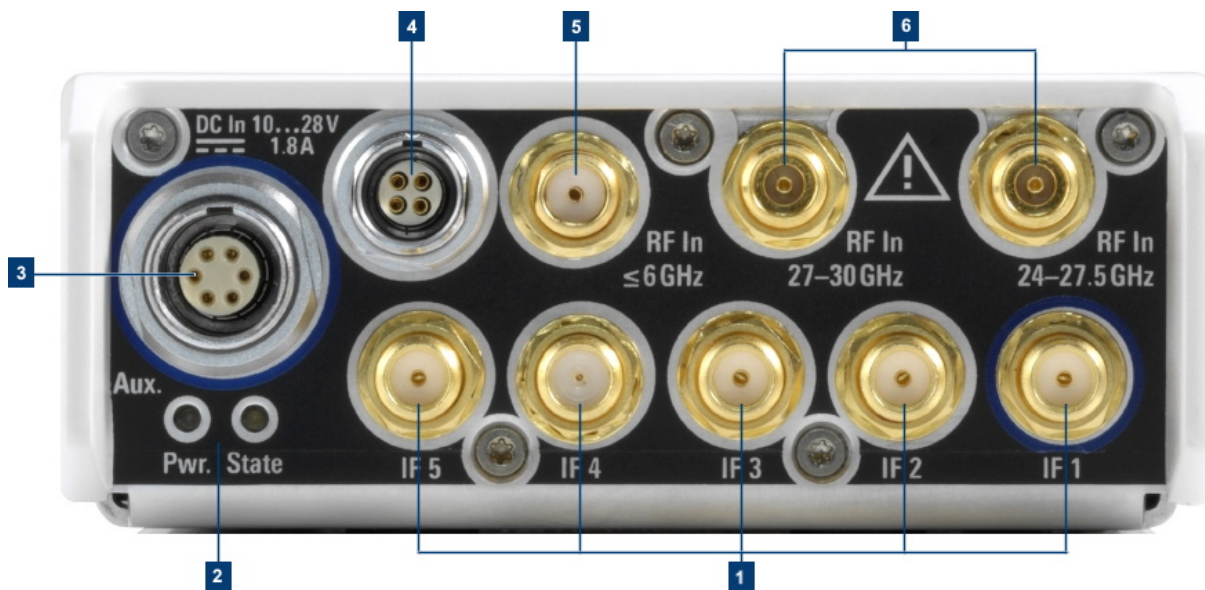
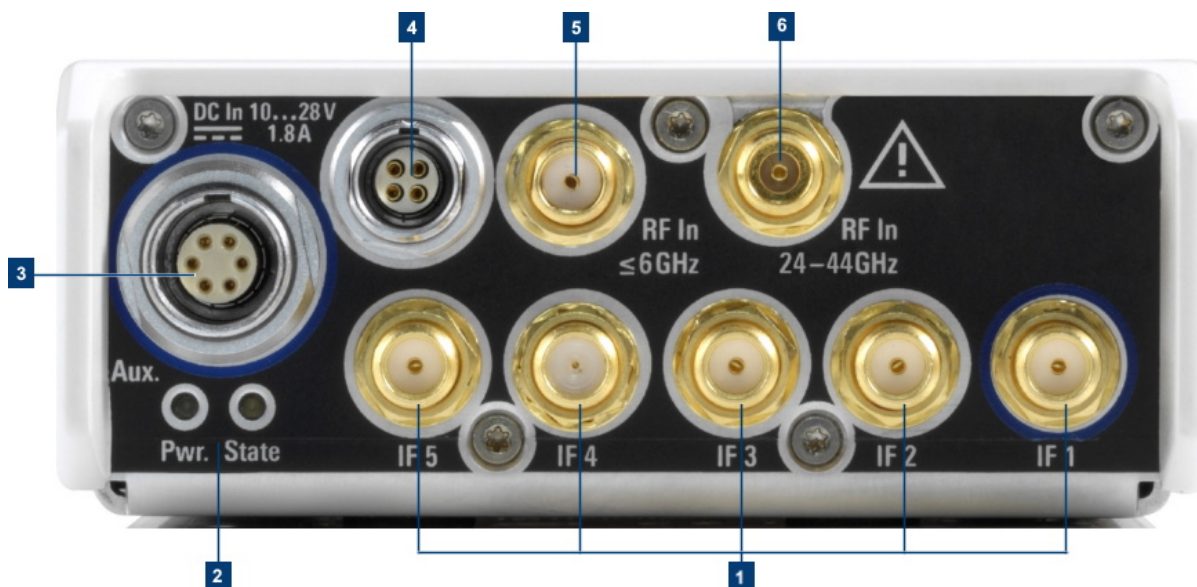

Figure 4-2: R&S TSME30DC rear panel
Figure 4-3: R&S TSME44DC rear panel
- ▶ Connect the RF cable with SMA plug to the RF In (≤ 6 GHz, bypass). See Figure 4-2 and Figure 4-3.
- a) R&S TSME30DC (see Figure 4-2)
- b) R&S TSME44DC (see Figure 4-3)